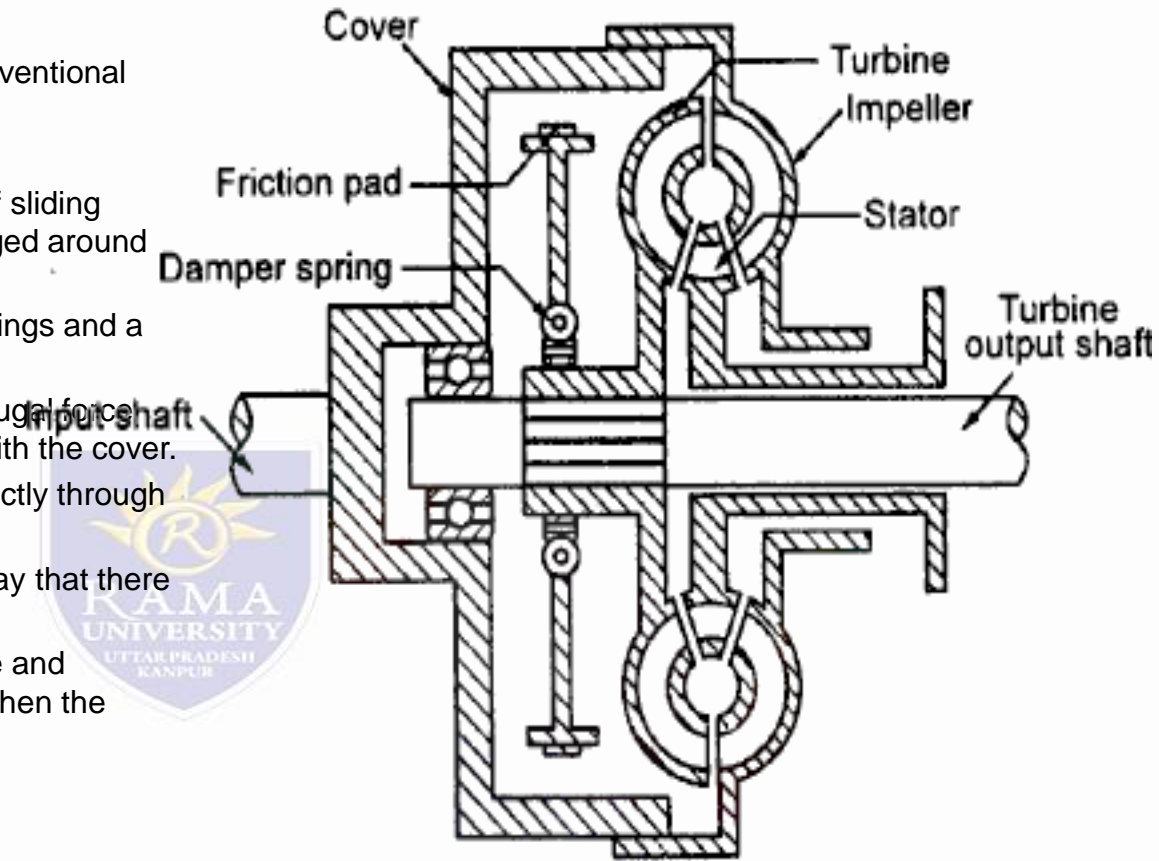

Figure 3.41 Centrifugal clutch with torque converter
- The centrifugal clutch used along with the conventional three-member torque converter is shown in Figure 3.41.